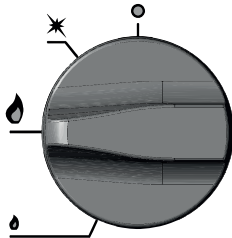
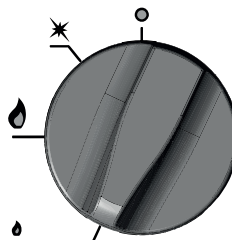

Figure 10. Setting of the knob in which the burner operate at its maximum power.
Figure 11. Setting of the knob in which the burner operates at its minimum power.
- Turn the knob (counterclockwise) to the full-flame position (Fig. 10) in order to light the main burner (lit by the pilot burner). Then turn the knob further in the same direction to get an energy-saving flame (Fig. 11). The main burner will not be actuated if the pilot burner does not light and heat the gas leak detector. In the event of a temporary fadeaway of flame, the gas leak detector will cut off the gas supply to the burner.